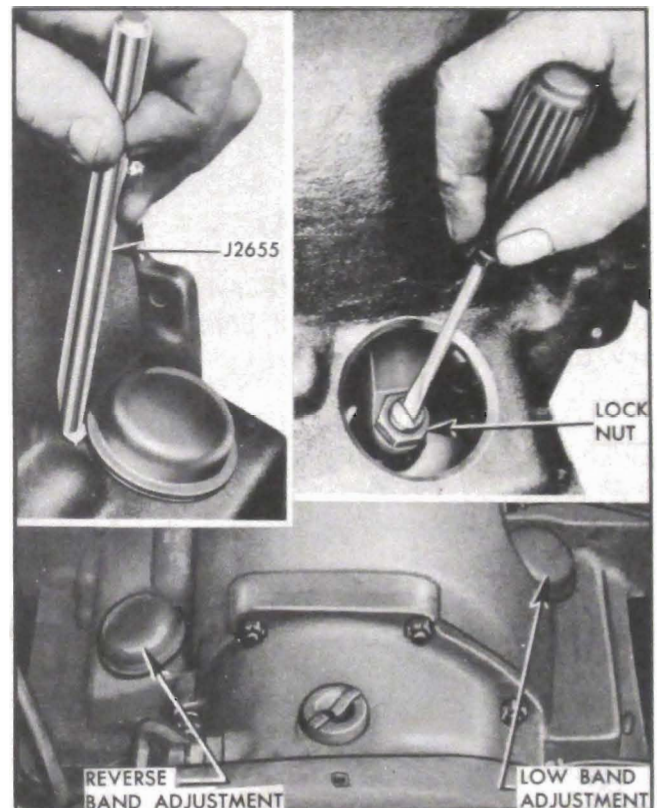

Figure 4-44—Band Adjustment
2. Remove band adjustment cover and gasket, using Removing Tool J 2655. See figure 4-44.